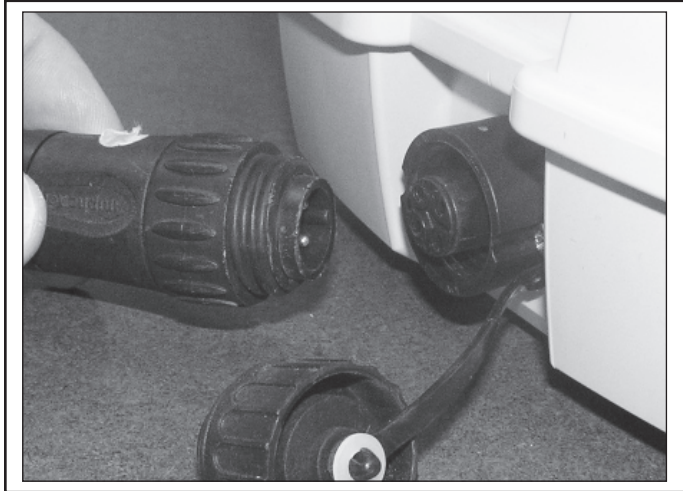

Figure 2. Connect Floating Cable to Test Box
3. Connect the floating cable from the cleaner to the test box (see Figure 2).